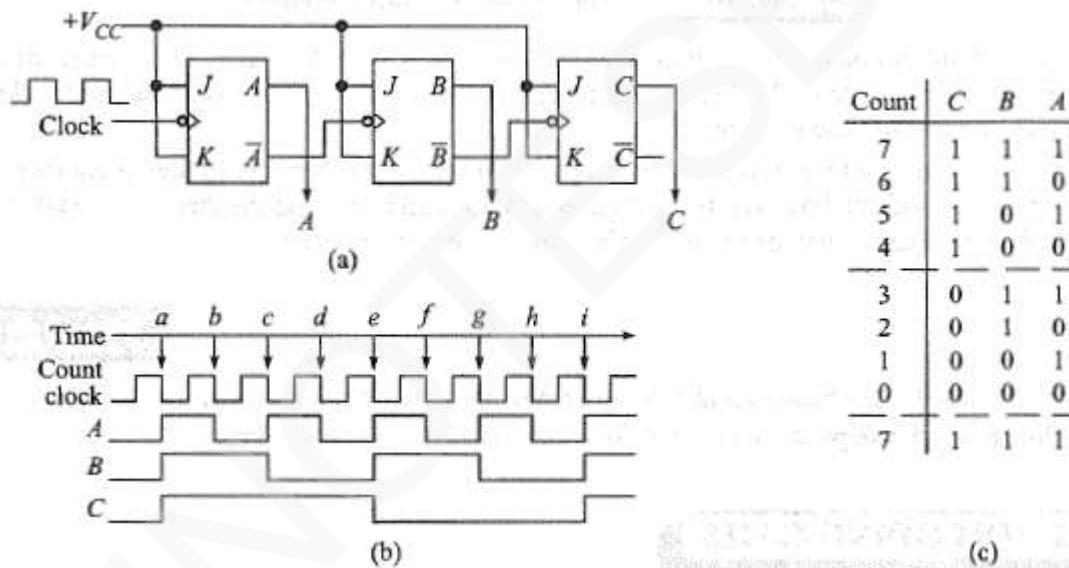

Figure 10.4:a) 3 bit down counter b) waveforms c)truth table
- Each flip-flop is driven by the output of the previous flip-flop i.e. the output of a flip-flop is used as the clock-input for the next flip-flop (Figure 10.4).